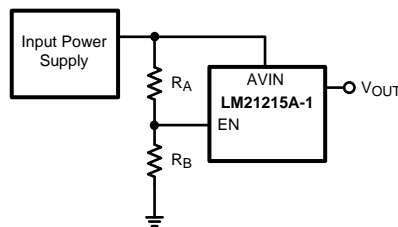

Figure 30. Enable Startup Through Vin
The LM21215A-1 has a built-in under-voltage lockout protection circuit that keeps the device from switching until the input voltage reaches 2.7V (typical). The UVLO threshold has 200 mV of hysteresis that keeps the device from responding to power-on glitches during start up. If desired the turn-on point of the supply can be changed by using the precision enable pin and a resistor divider network connected to VIN as shown in Figure 30 in the design guide.
The enable (EN) pin of the LM21215A-1 allows the output to be toggled on and off. This pin is a precision analog input. When the voltage exceeds 1.35V, the controller will try to regulate the output voltage as long as the input voltage has exceeded the UVLO voltage of 2.70V. There is an internal current source connected to EN so if enable is not used, the device will turn on automatically. If EN is not toggled directly the device can be preprogrammed to turn on at a certain input voltage higher than the UVLO voltage. This can be done with an external resistor divider from AVIN to EN and EN to AGND as shown below in Figure 30.